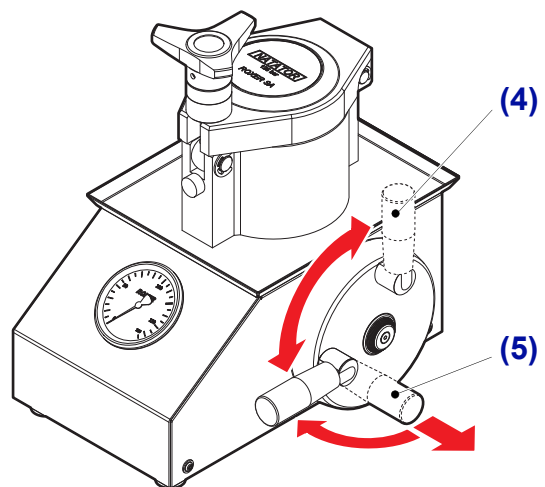

Figure 5-4
- A. Turn the notched ring (1) in a clockwise direction until it “clicks”.
- B. Turn the hand wheel (2) in a **counter-clockwise direction** as indicated in the adjoining figure to reduce the pressure in the tank.
*If the force needed to turn the hand wheel is too great, change the position of the handle as illustrated Figure 5-4, p. 20.*